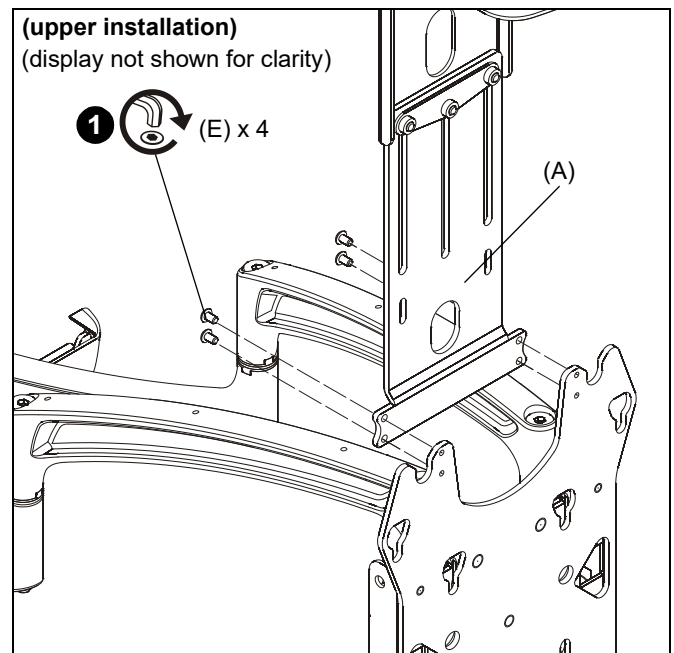

Figure 3
1. Use four #10-24 x 3/8" button head cap screws (E) to connect hanging bracket (A) to swing arm faceplate. (See Figure 3)